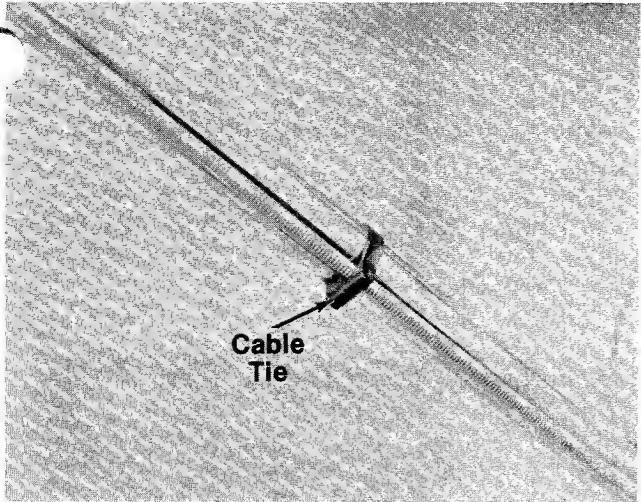

FIGURE 4.
5. Use the cable ties to fasten the throttle control wire to the handle. See figure 4.